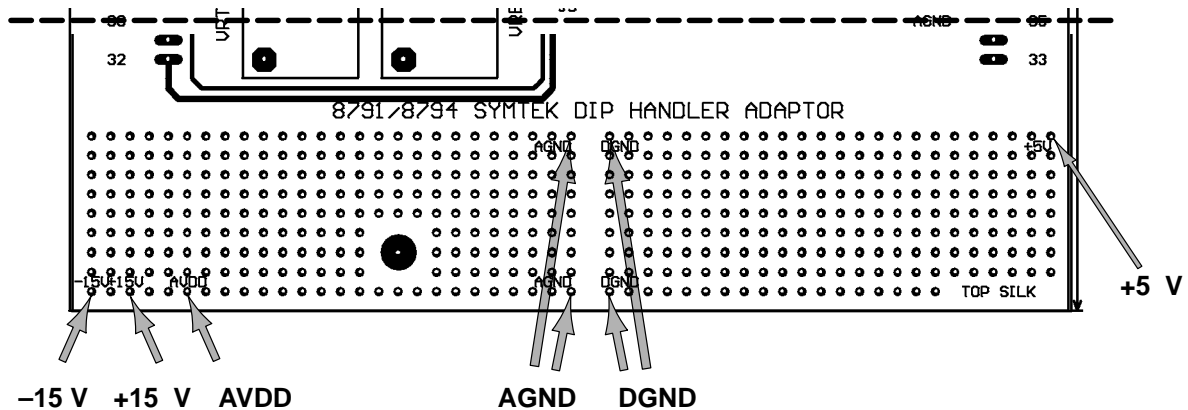

Figure 3. Analog and Digital Work Area with Power and Ground Pads
5. **DIGITAL & ANALOG WORK AREAS** - 100 mil spaced holes allow configuration of additional circuitry powered from either analog or digital planes. The work area power and ground pads are shown in *Figure 3.* for both the analog and digital planes.